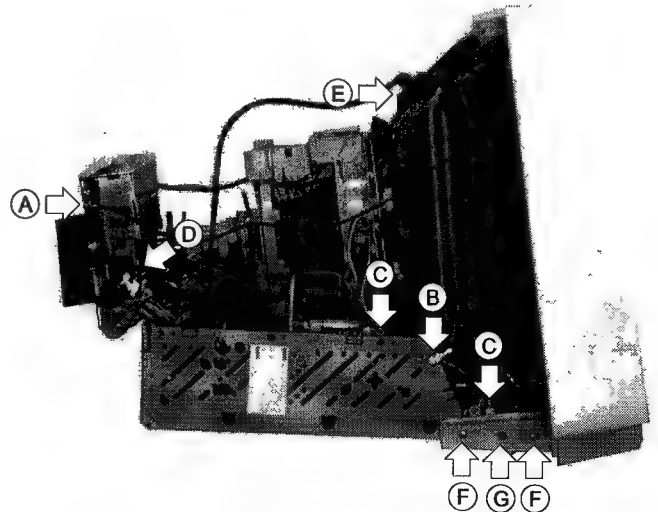

Figure 2-3 Remove the Rear Cover
1. Disconnect the ground wire from the neck shield. Refer to the figure 2-3 (A).
2. Disconnect the ground wire from the U bracket. Refer to the figure 2-3 (B).
3. Remove the two connected pins from the main board. Refer to the figure 2-3 (C).
4. Remove the connected pin from the neck board. Refer to the figure 2-3 (D).
5. Remove the anode cap from the CRT. Refer to the figure 2-3 (E).
5. Remove the two screws at the bezel. Refer to the figure 2-3 (F).
6. Remove the nylon revet holding from the bezel. Refer to the figure 2-3 (G).